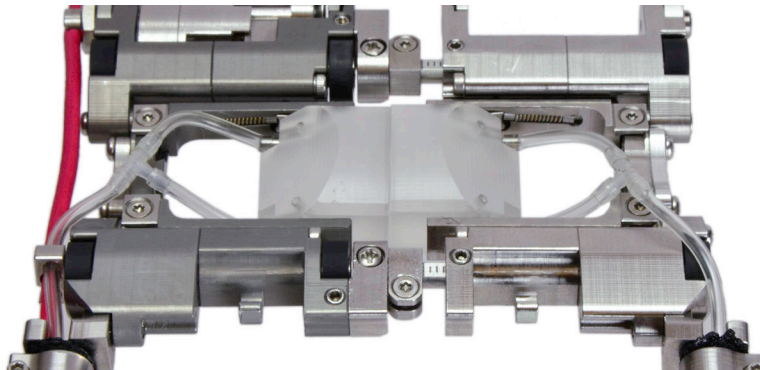

Figure 42
- Slide the wedges together till they make contact with each other (Figure 42)